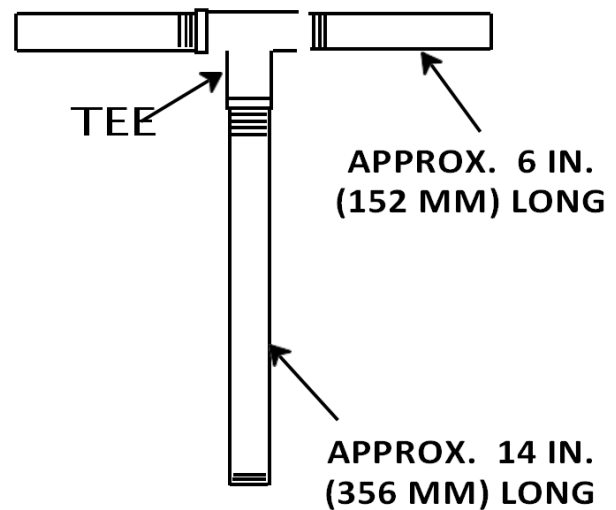

Figure 3. Rotating Assembly Tool
*An optional disassembly tool is available from the factory. A similar tool may be assembled using 1/2-inch pipe (schedule 80 steel or malleable iron) and a standard tee (see **Figure 3**). All threads are 1/2-inch NPT. DO NOT pre-assemble the tool.*